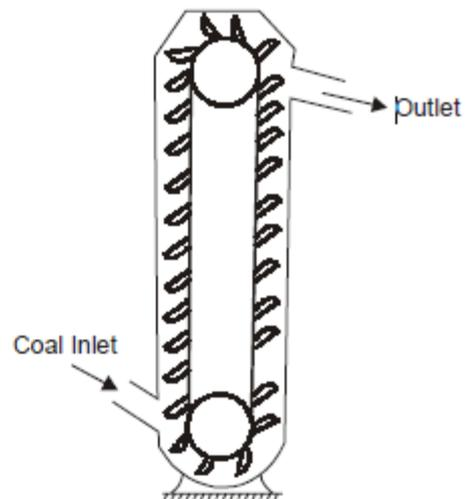

Fig. 4.5. Bucket Elevator.
- It consists of buckets fixed to a chain (Fig. 4.5). The chain moves over two wheels.